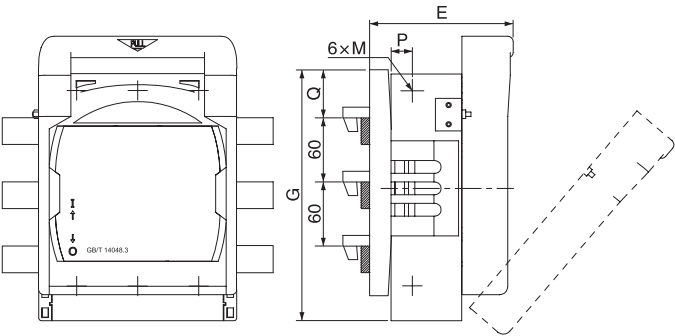

Fig. 2 Installation and outline dimensions drawing for HR17N series busbar type
6.2 The installation and outline dimensions of the busbar type see Table 3 and Fig. 2.